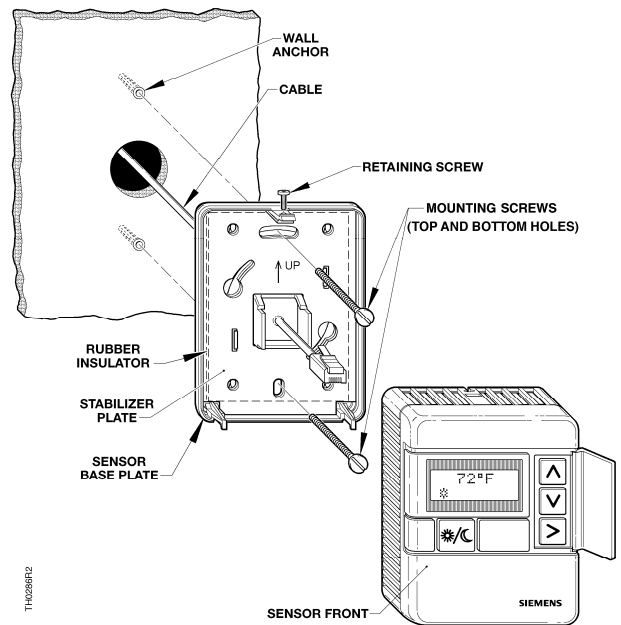

Figure 2. Drywall Mounting (No Rough-in), Typical.
1. Mark the center (cable) hole and the mounting hole locations, using the sensor base plate as a template. See Figure 2.
11. Tighten the sensor front retaining screw. See Figure 2.